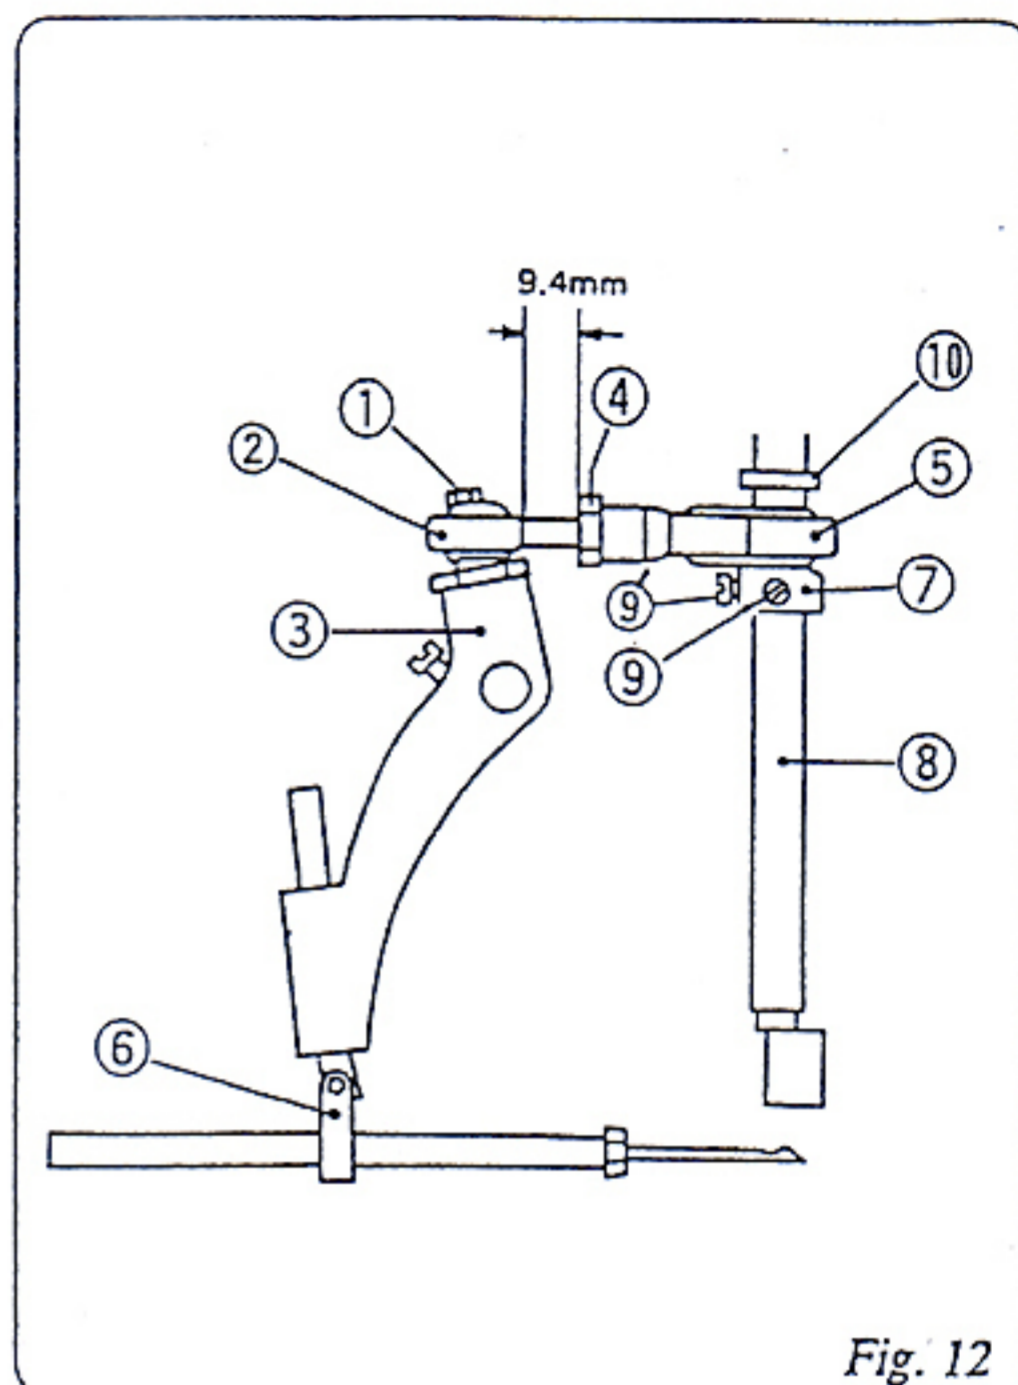
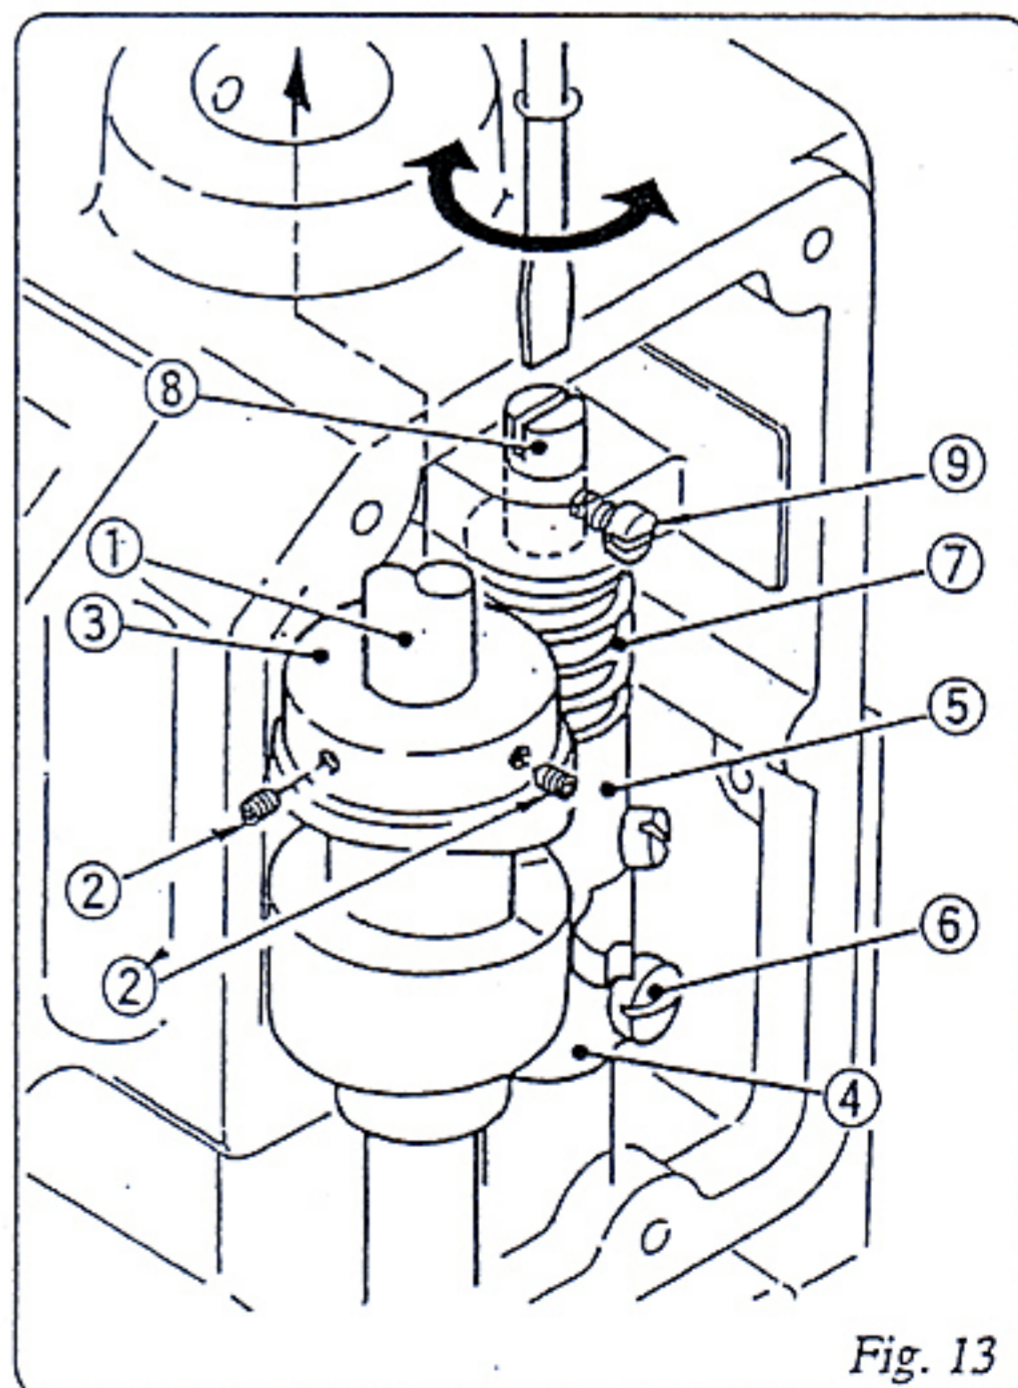

Fig. 12
Fig. 13
For replacement or adjustment of Ball Rod, refer to Fig.12.
The position of Needle is adjusted so that the distance between the point of Needle (at its highest position) and Throat Plate is 13 mm, after loosening screw on Needle Bar Connection Assembly ⑥ in Fig.12.
- ① Screw 11/64S40089
- ② Rod End 6APOS8
- ③ Needle Bar Lever 242051A
- ④ Nut 1N8
- ⑤ Connecting Rod Assembly 242011A
- ⑥ Needle Bar Connection Assembly 242101A
- ⑦ Eccentric Cam (part of Connecting Rod Assembly) 242011
- ⑧ Main Shaft 241101
- ⑨ ⑨ Screw 11/64S40001
- ⑩ Spacer 241161
Adjust Looper Drive Cam ③ When necessary as follows: (Refer to Fig.13.).
- a) Apply the Screws ② and ② on the taper of Main Shaft ①.
- b) Adjust Arm (B) ④, so that Looper Drive Cam ③ and Arm (A) ⑤ move smoothly. After adjusting, fix the Screw ⑥ tightly.
- c) The clearance between Looper Drive Cam ③ and Arm ⑤ is effected by Spring ⑦. Loosen Screw ⑨ and turn Spring Supporter ⑧ to adjust the pressure of Spring ⑦. After adjusting, tighten the Screw ⑨ to fasten Spring Supporter ⑧.
- ① Main Shaft 241102
- ② ② Screw 15/64S28524
- ③ Looper Drive Cam 243012
- ④ Looper Rocker Shaft Arm (B) 243081
- ⑤ Looper Rocker Shaft Arm (A) 243071
- ⑥ Screw for Looper Rocker Shaft Arm (B) 11/64S40009
- ⑦ Spring 243131